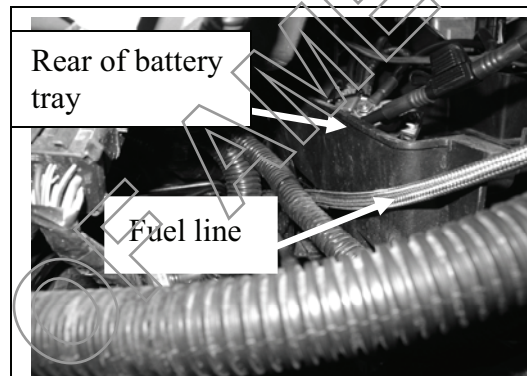
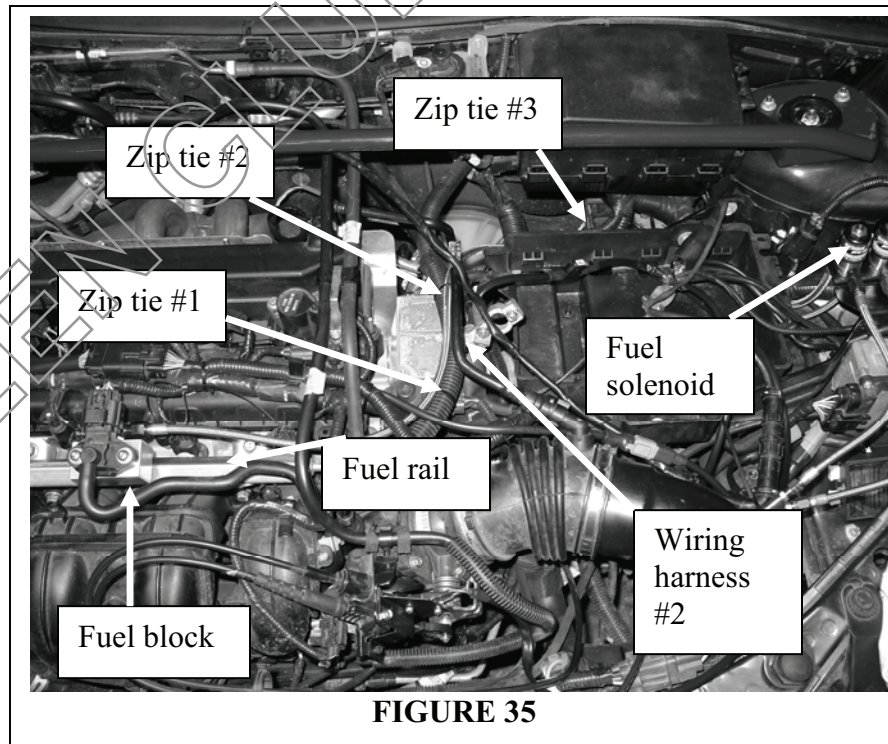

FIGURE 34
FIGURE 35
56. Run the fuel line behind the battery tray along wiring harness #1 **(FIGURE 35)** and around to the passenger side rear corner of the battery tray. **(FIGURE 34)**
57. Route the fuel line along wiring harness #2 to the front of the engine. Run the line along the fuel rail to the fuel block. **(FIGURE 35)**
59. Using 3 zip ties, secure the fuel line to the wiring harnesses as indicated in **FIGURE 35**. Be sure that the fuel line is not near any sources of heat such as the exhaust.
60. Install the first fuel line zip tie (**#1, FIGURE 35**) in front of the wiring harness. (**FIGURE 36**)
61. Install the second fuel line zip tie (**#2, FIGURE 35**) at the rear of the wiring harness. (**FIGURE 37**)
62. Install the third fuel line zip tie (**#3, FIGURE 35**) behind the battery tray. (**FIGURE 38**)